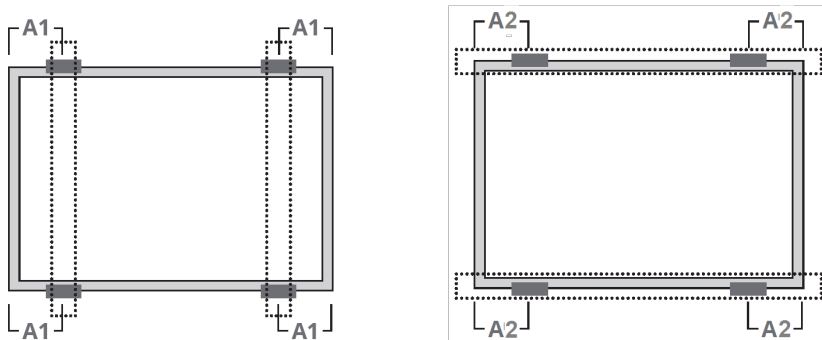

Figure 9: Side Clamping Ranges of the SPVxxx-R60LWMG/ SPVxxx-R60LBMG Modules
6. For mounting the supporting rails on the frame, slide bolts through the rail grooves next to the four clamp locations. Clamp positions are of crucial importance for the reliability of the installation. The clamp center lines must only be positioned within the ranges indicated in *Figure 9 and Table 4*, depending on the configuration and load.